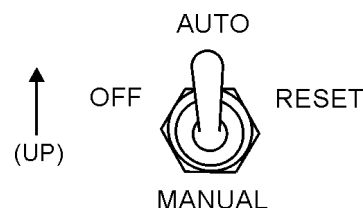

Figure 65. Off/Manual Auto Switch (AUTO)
2. Place the Off/Manual/Auto switch (Figure 65) in the **AUTO** position (up).